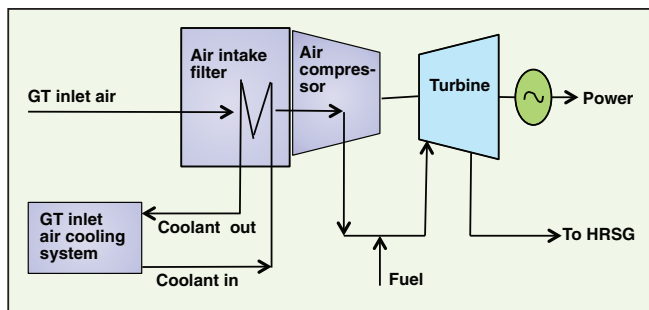

FIGURE 9. This gas turbine includes a compressor, turbine and air-intake filter with inlet-air cooling
A typical application of absorption chillers is for heat recovery from fluegases (HRSG; heat recovery steam generator) to produce chilled water. HRSG recovers heat from gas-turbine (GT) exhaust gases. GTs consist mainly of one air compressor, one turbine and an air intake filter, as illustrated in Figure 9. Chilled water can be used to reduce the air inlet temperature at the air compressor of the GT. Air density at the air compressor inlet thereby increases, and hence mass flow increases through the air compressor. This is the most cost-effective method for increasing gross power output of the GT. It increases net incremental power output faster than incremental fuel consumption, resulting in improved overall fuel efficiency (reduced heat rate).